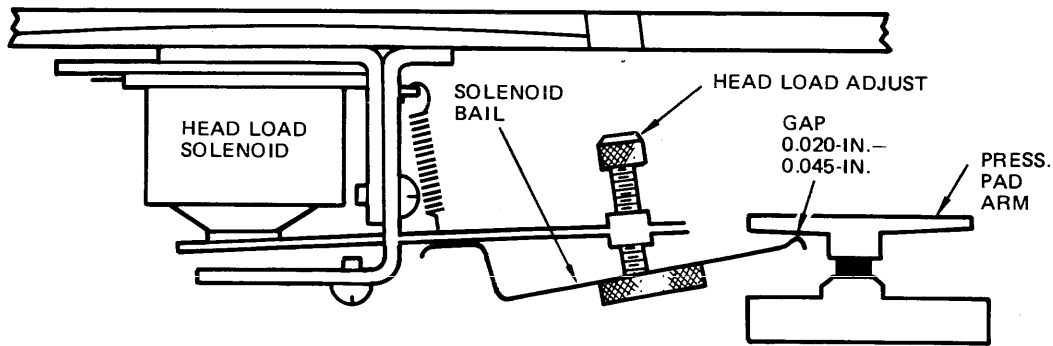

Figure 1-7. Head Load Adjust, Head Engaged
- c. Verify that a gap exists between head load solenoid bail and pressure pad (load) arm (See Figure 1-7).